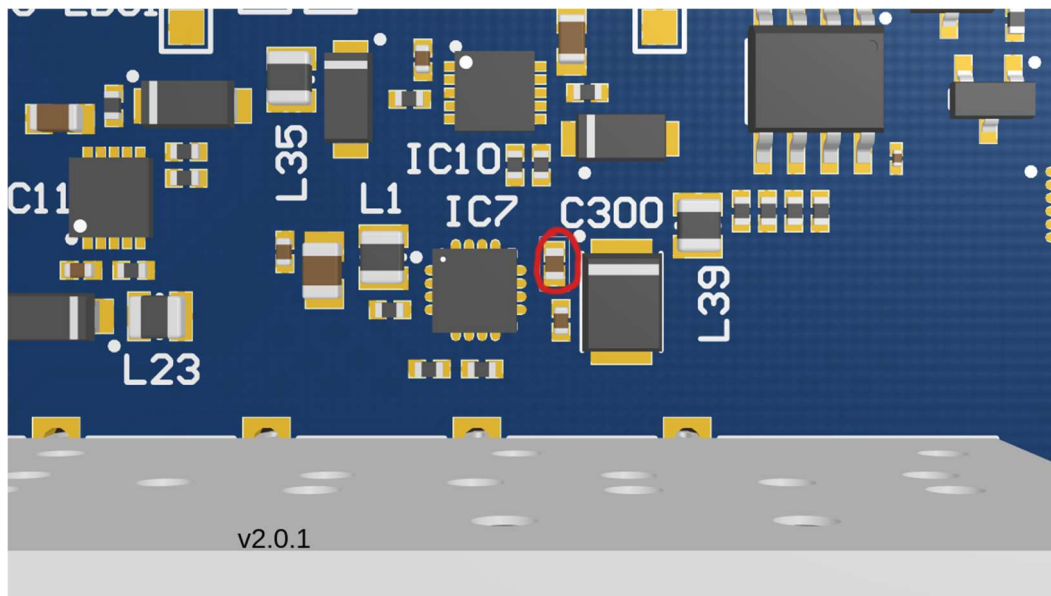

Figure 2
2. For Kasli 2.0.1 desolder the capacitor marked in Figure 2.